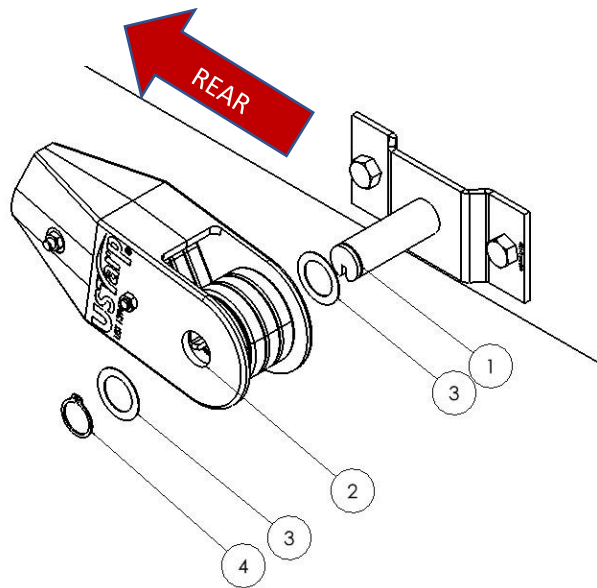

Figure 3.6
Once the pivot casting (2) is on the pivot pin (1) place another stainless steel bushing (3) onto the pivot pin and attach the retaining ring (4) to the groove in the pivot pin. (Figure 3.6)